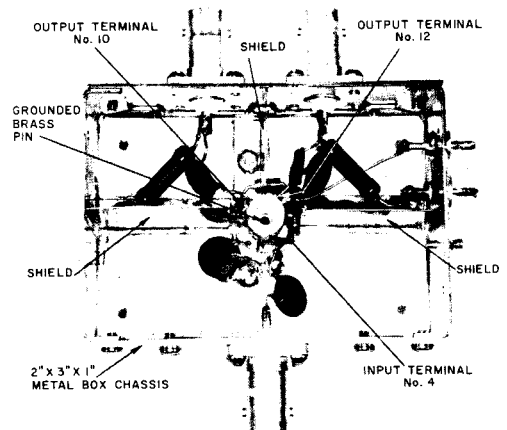

Fig.6 - Test Circuit Layout
Stable high-frequency operation requires that proper high-frequency construction techniques be followed. The photograph of Fig.6 illustrates the precautions taken in the construction of the test circuit of Fig.3.
1. Use sockets only when necessary. Sockets, when used, must provide shielding within the pin circle. The socket shown in the chassis of Fig.6 is a Barnes MG-1201, or equivalent, modified by drilling a  $1/8$ " hole in the center and inserting a grounded brass pin.